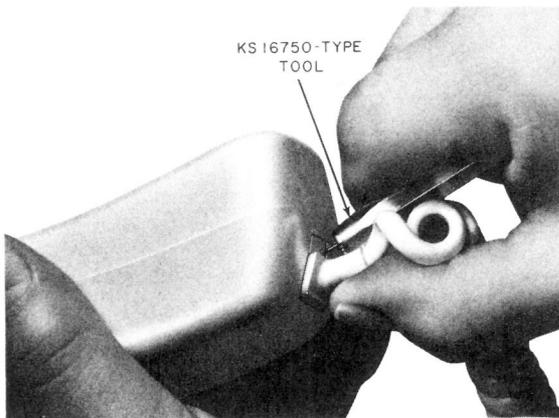
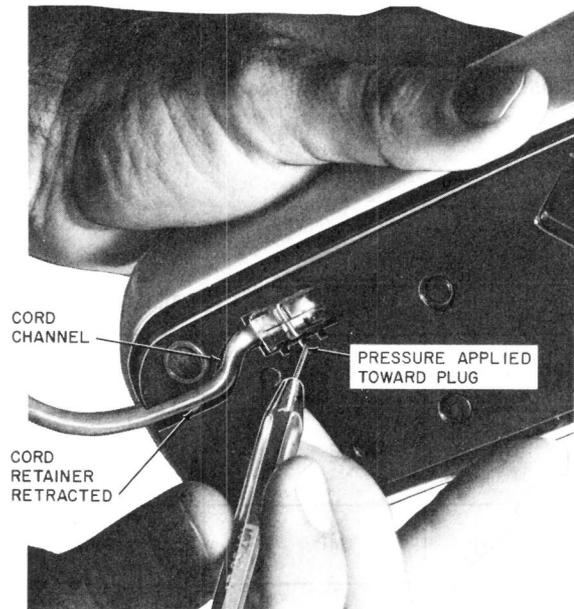

Fig. 19—Removing Handset Cord From the Hand Telephone Set
Fig. 20—Removing Mounting Cord From AD1 Telephone Base
5.06 To replace a plug ended H4DB, H5AA, or H5AD handset cord (Fig. 19) or D4BW, D5AL, or D5AN mounting cord (Fig. 20) use a KS-16750 type releaser. ***Do not use a screwdriver.*** Insert tool in space provided and hold releaser similar to using a paring knife to apply pressure on the spring clip. When spring clip has been depressed, pull plug out of jack. The plug end of the D4BU cord can be removed from a jack by depressing the locking tab and pulling plug out.